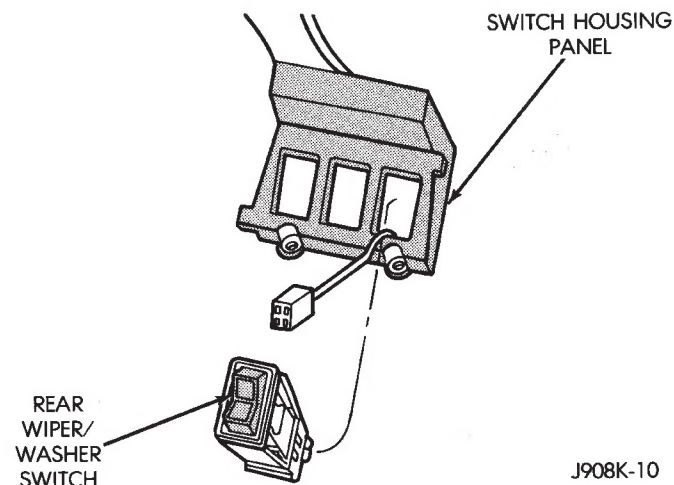

Fig. 29 Liftgate Wiper/Washer Switch
(1) Remove the left instrument panel bezel. Refer to Group 8E - Instrument Panel and Gauges for procedure.
(2) Remove the switch housing panel.
(3) Unplug the switch connector. Slightly depress the switch mounting tabs and remove the switch (Fig. 29).